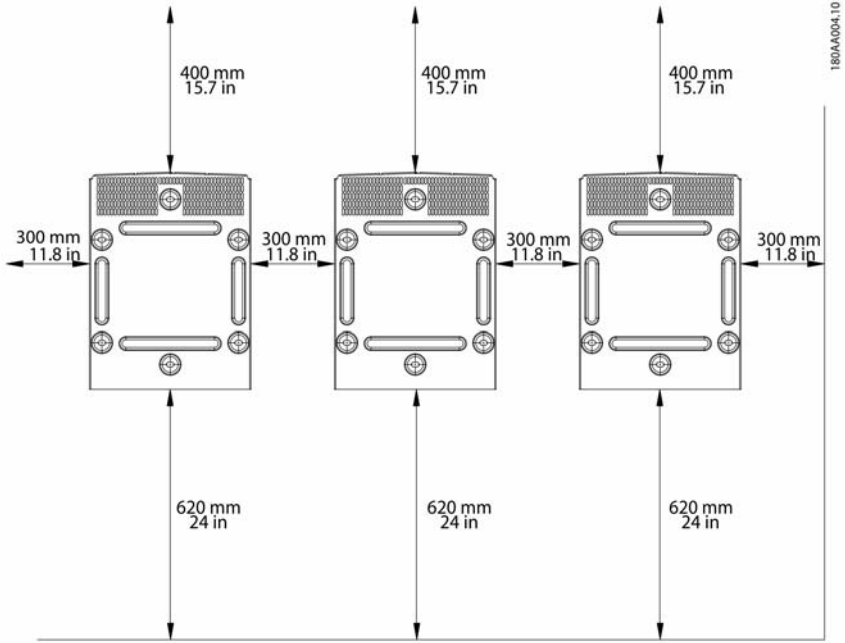

Figure 2.8 Safety clearances
- When installing one or several inverters, observe the safety clearances to ensure sufficient airflow. Clearances are specified in figure 2.8 and on the mounting plate label.